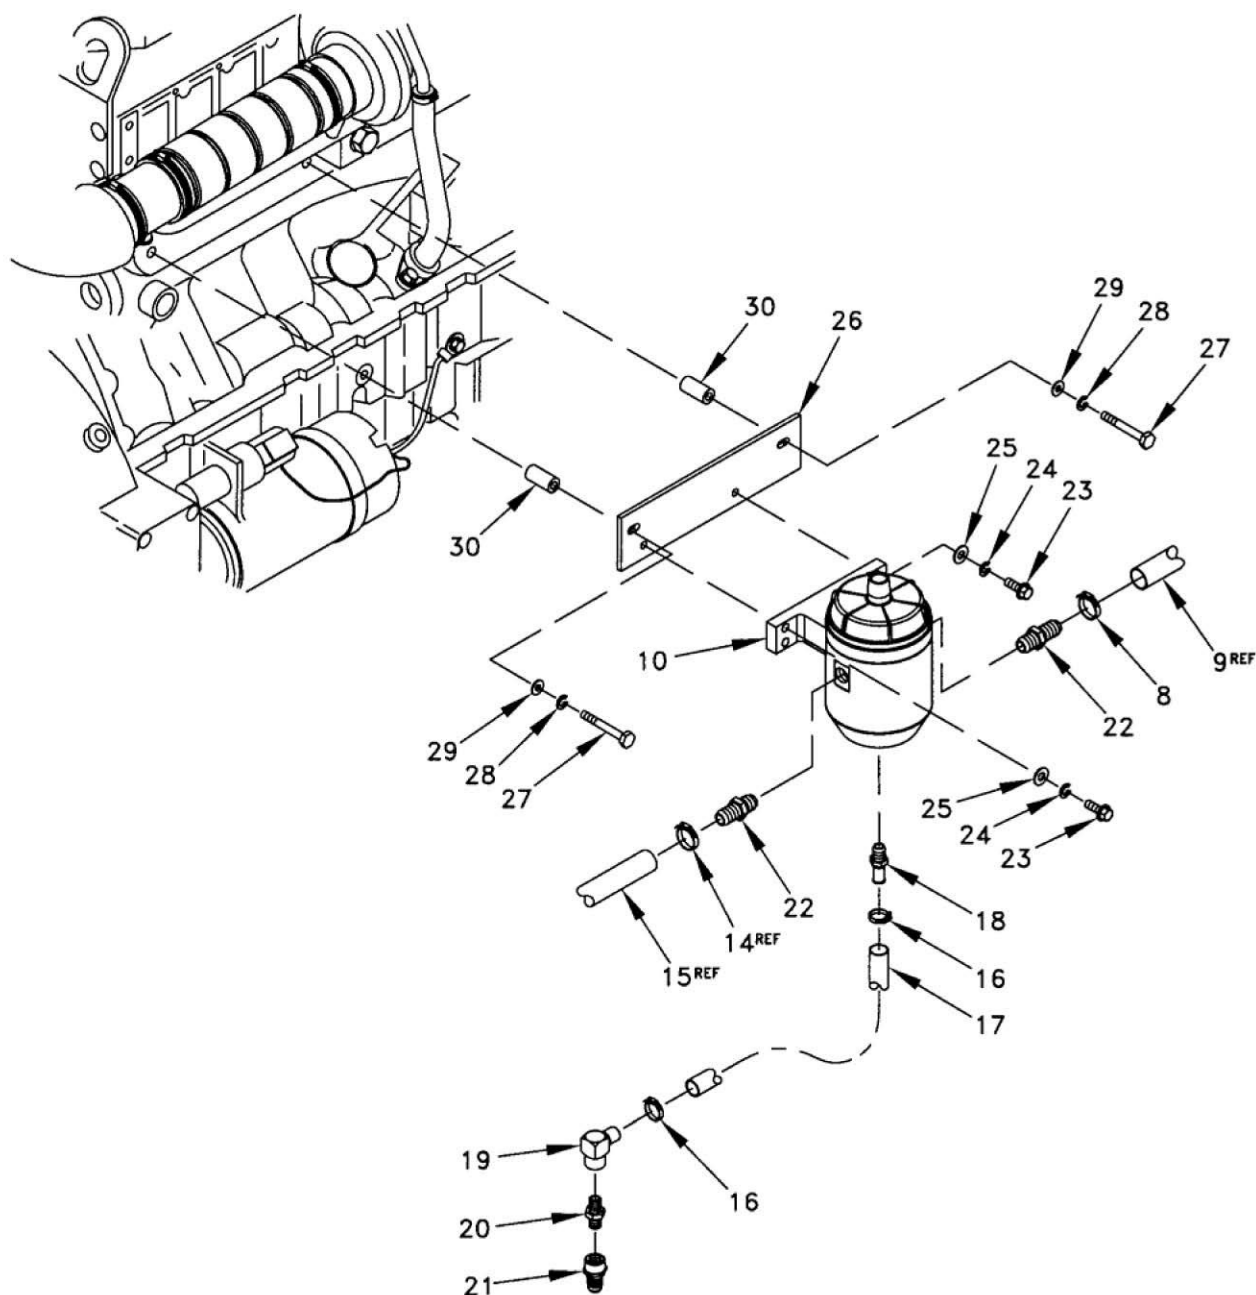

Figure 1. Air Cleaner System (Sheet 2 of 2).
18. Remove four screws (Figure 1, Sheet 1, Item 35), lock washers (Figure 1, Sheet 1, Item 36), washers (Figure 1, Sheet 1, Item 37), four spacers (Figure 1, Sheet 1, Item 38), four lock nuts (Figure 1, Sheet 1, Item 39), and two air cleaner mounting bands (Figure 1, Sheet 1, Item 34).